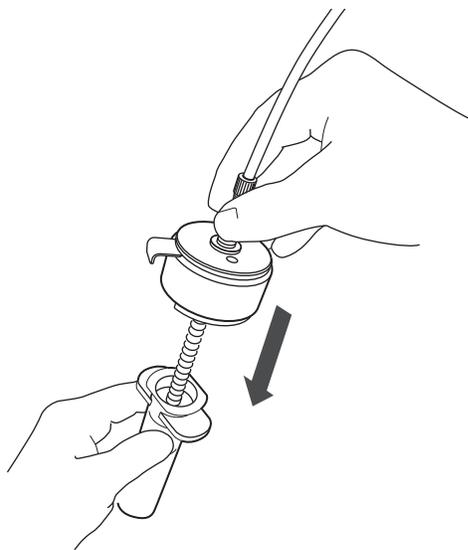

Figure 4-2 Insert the plunger to the bed
3. Slide the plunger into the cartridge until it reaches the top frit (Figure 4-2).